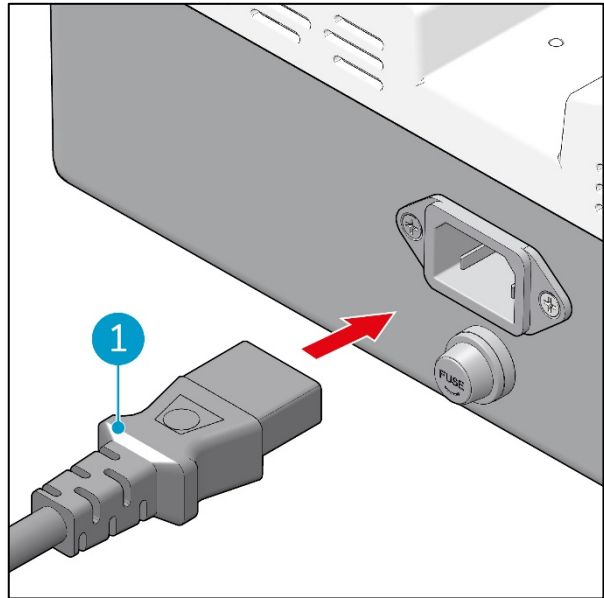

Figure 6
Connect the power cable (Figure 6, pos 1) to the connector at the back side of the i-charge 2.